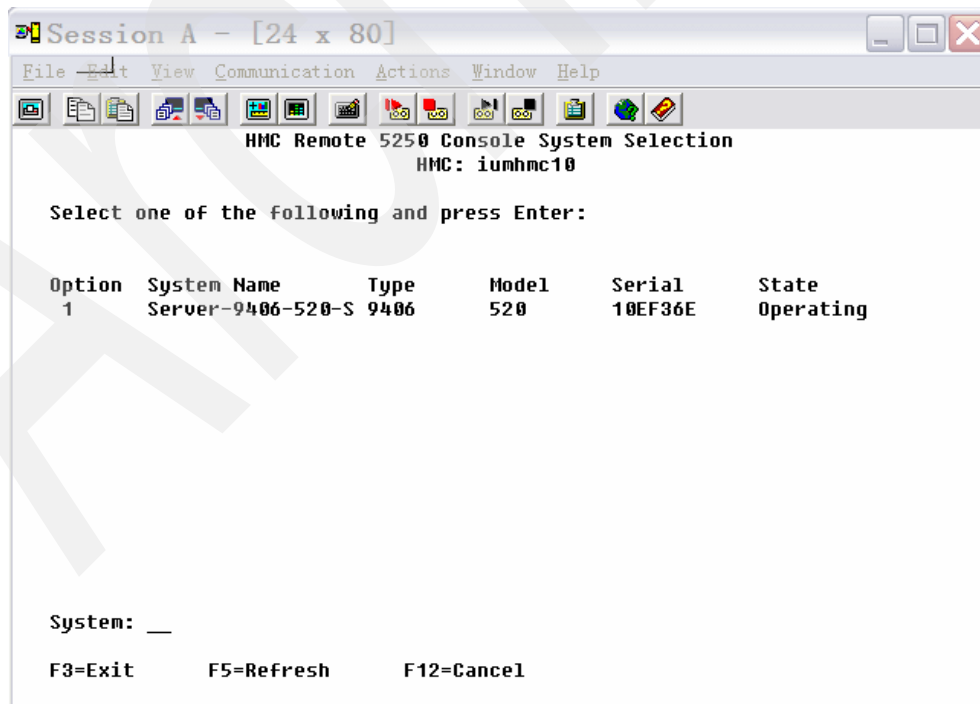

Figure 2-8 Remote 5250 console - select management server
5. When the window in Figure 2-8 prompts you, select the management server that you want to access.